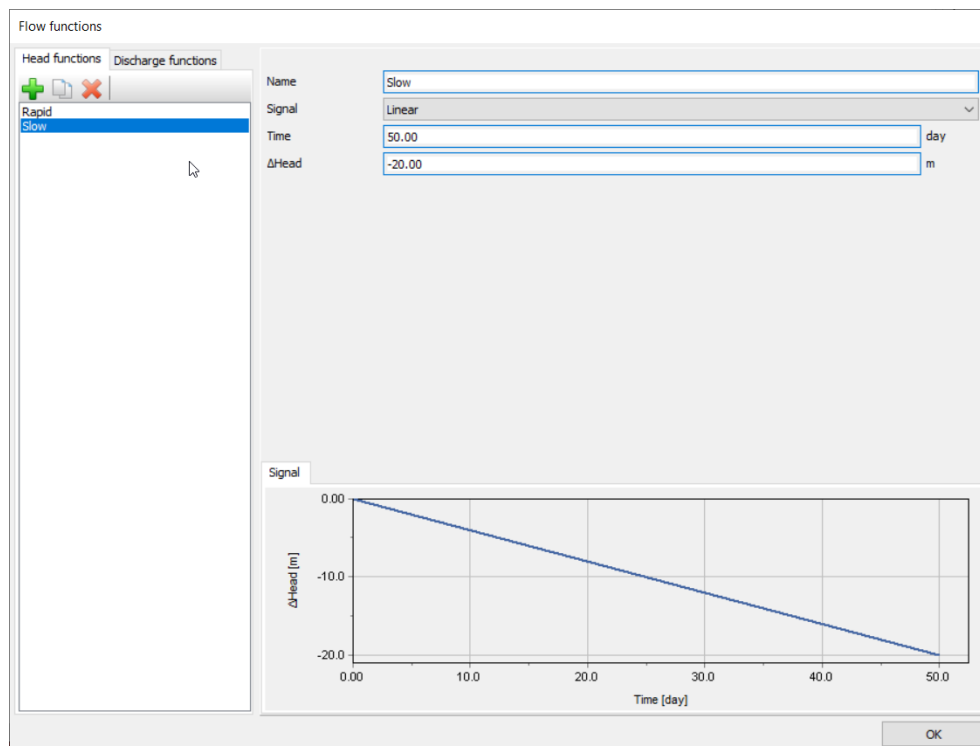

Figure 118: The flow function for the slow drawdown case
9. Create a new flow function (see Figure 118 (on page 144)) following the steps previously described.